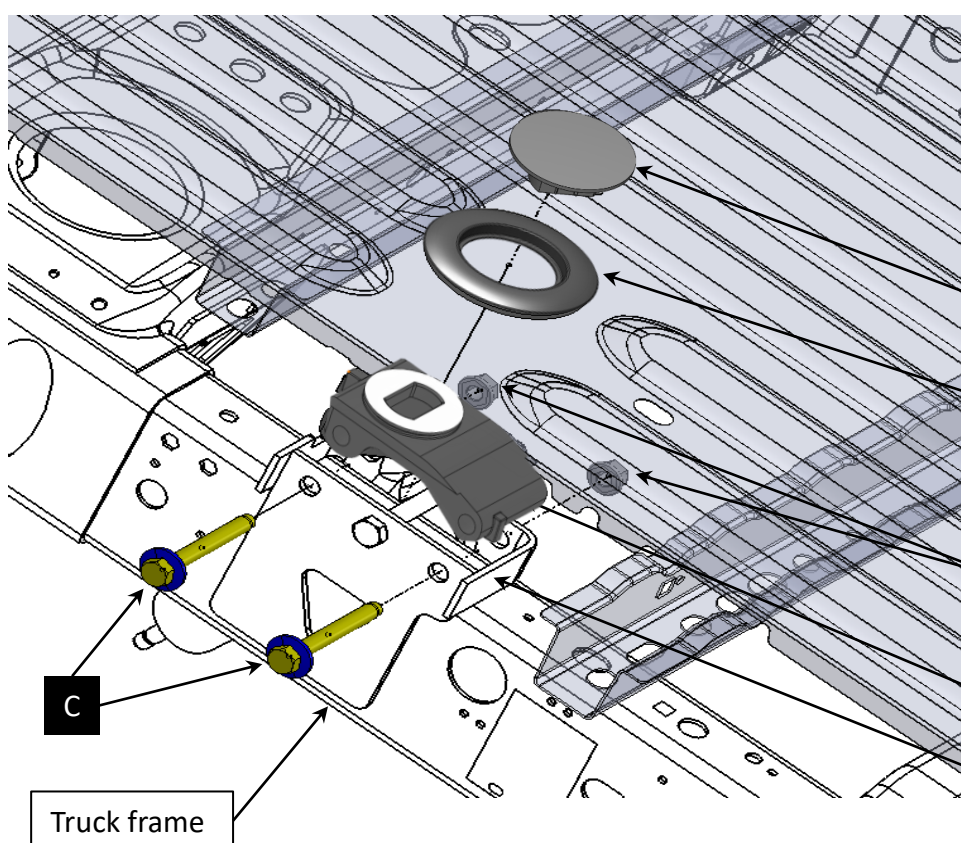

Figure 3
- 6) Install part 'B' 5th wheel receiver rear in frame bracket as shown in (Fig. 3), **NOTE ORIENTATION**.